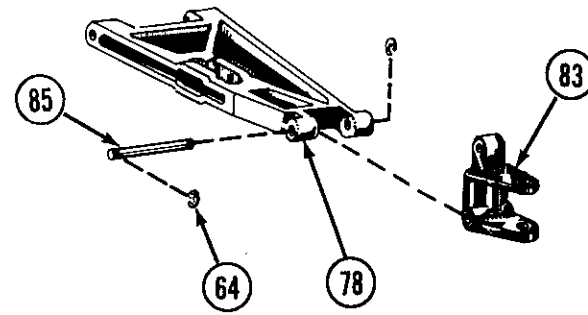

FIG. 36
12. Attach spindle carrier (83) to A-arms (78) using 1/8" x .960 pins (85) secured by two 1/8" E-clip (64). Fig. 36.
\* NOTE: Letters L and R on spindle (81) (82) arms should point upward and should be on appropriate side. Fig. 36.